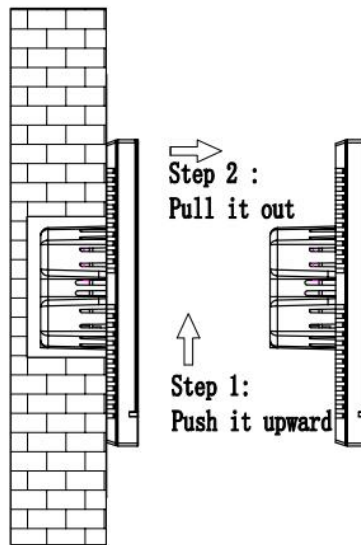

Fig.3.3.1.5
4. After finishing the installation, if disassembly is required, please perform this step: Push the device upward, then pull it out toward the horizontal direction when hear a buckle sound or when the device can no longer be moved, then the disassembly is finished, as shown in Fig.3.3.1.5.